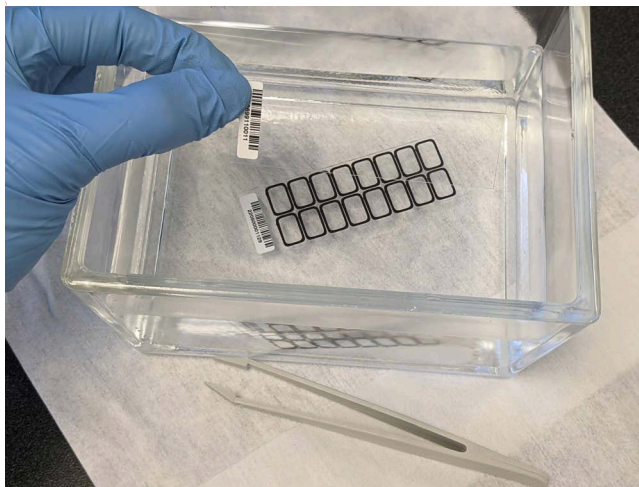

Figure 17 Removal of the microarray slide from dish #1
- d While grasping the microarray slide with thumb and forefinger (as shown in **Figure 17**) remove the microarray slide from the dish #1 and quickly put into the slide rack in the slide-staining dish #2 containing **Oligo aCGH/ChIP-on-Chip Wash Buffer 1** at room temperature. Minimize exposure of the slide to air. *Touch only the barcode portion of the microarray slide or its edges!*